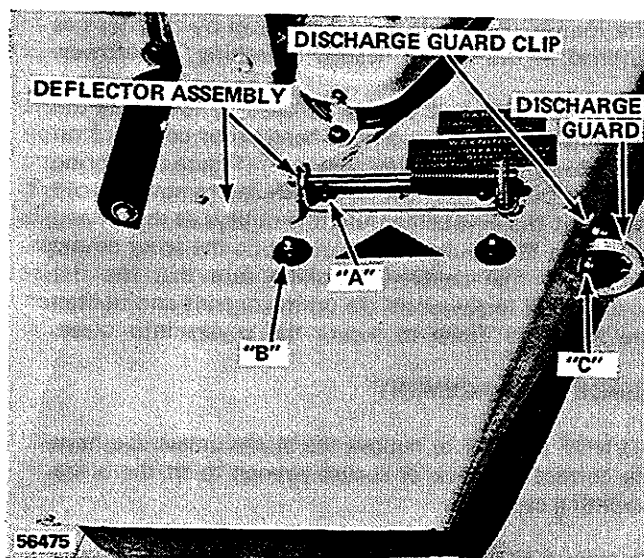

FIGURE 9
2. Bolt the deflector assembly to mower outlet as shown in Figure 9, using two bolts, lockwashers